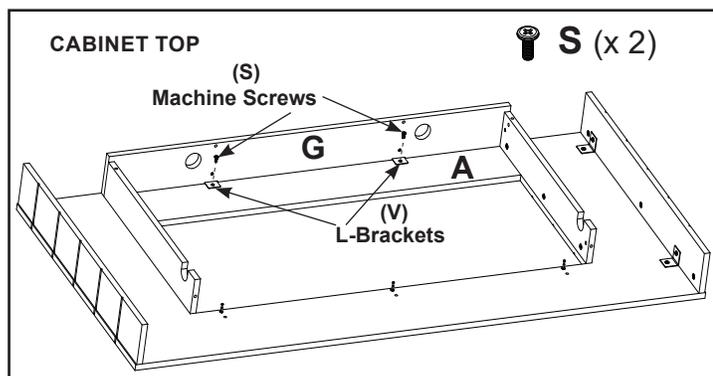

Figure 17
- Secure part "G" to part "A" using two (2) M6 X 10 screws (S) and two (2) L-Brackets (V). See Figure 17.